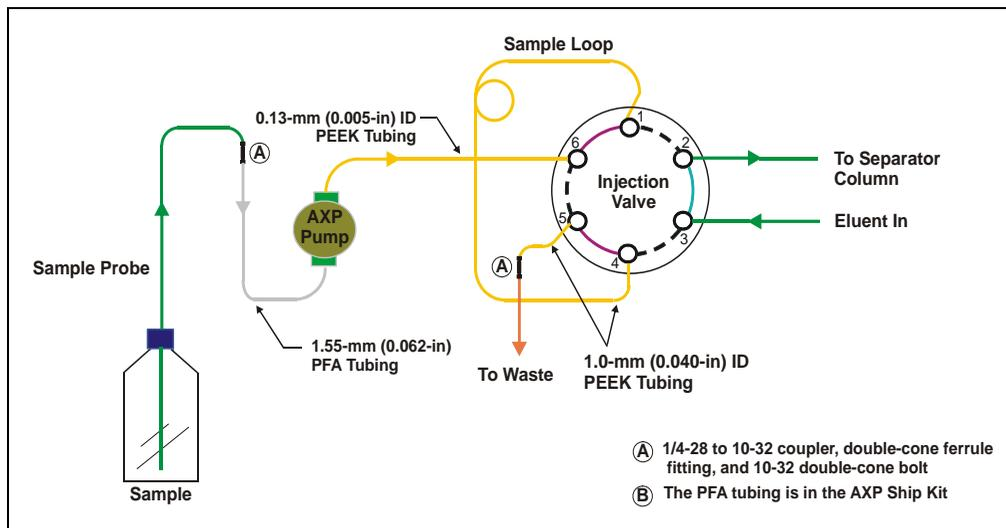
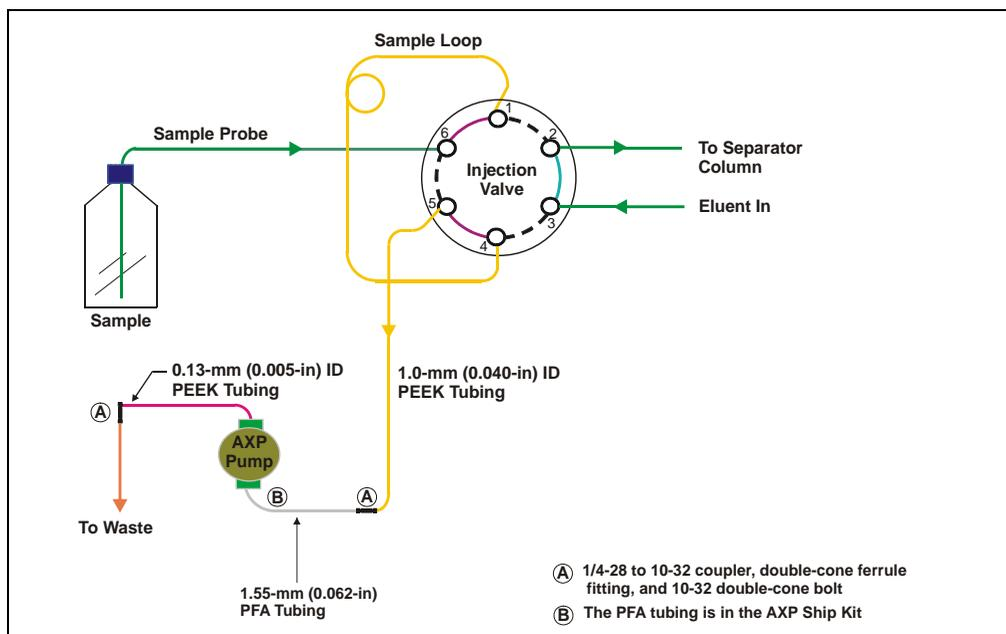

Figure B-11. AXP Pump Flow Schematic: Push Mode
Figure B-12. AXP Pump Flow Schematic: Pull Mode
4. Connect the liquid lines as required for either the push mode (see Figure B-11) or the pull mode (see Figure B-12).